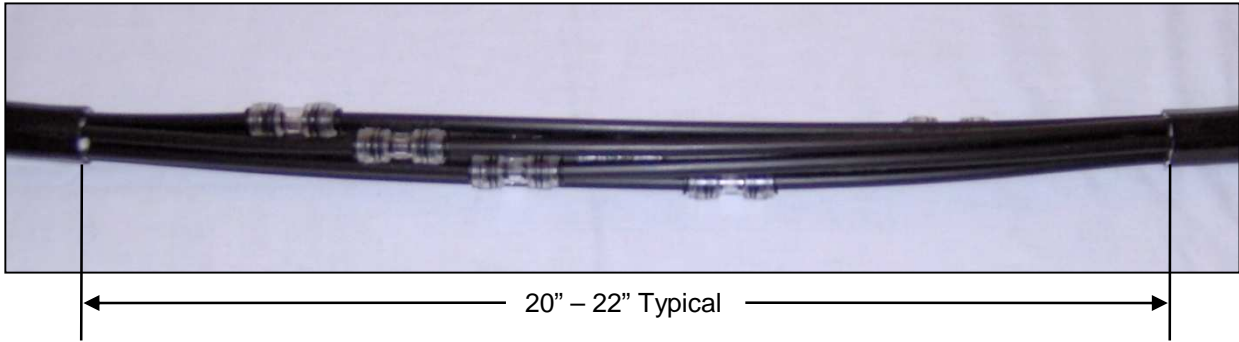

Figure 18
9.17 After all tubes are coupled, make final adjustments to tube and tube cable positions and secure in place to complete the installation. **(See Fig. 18 for an example.)**